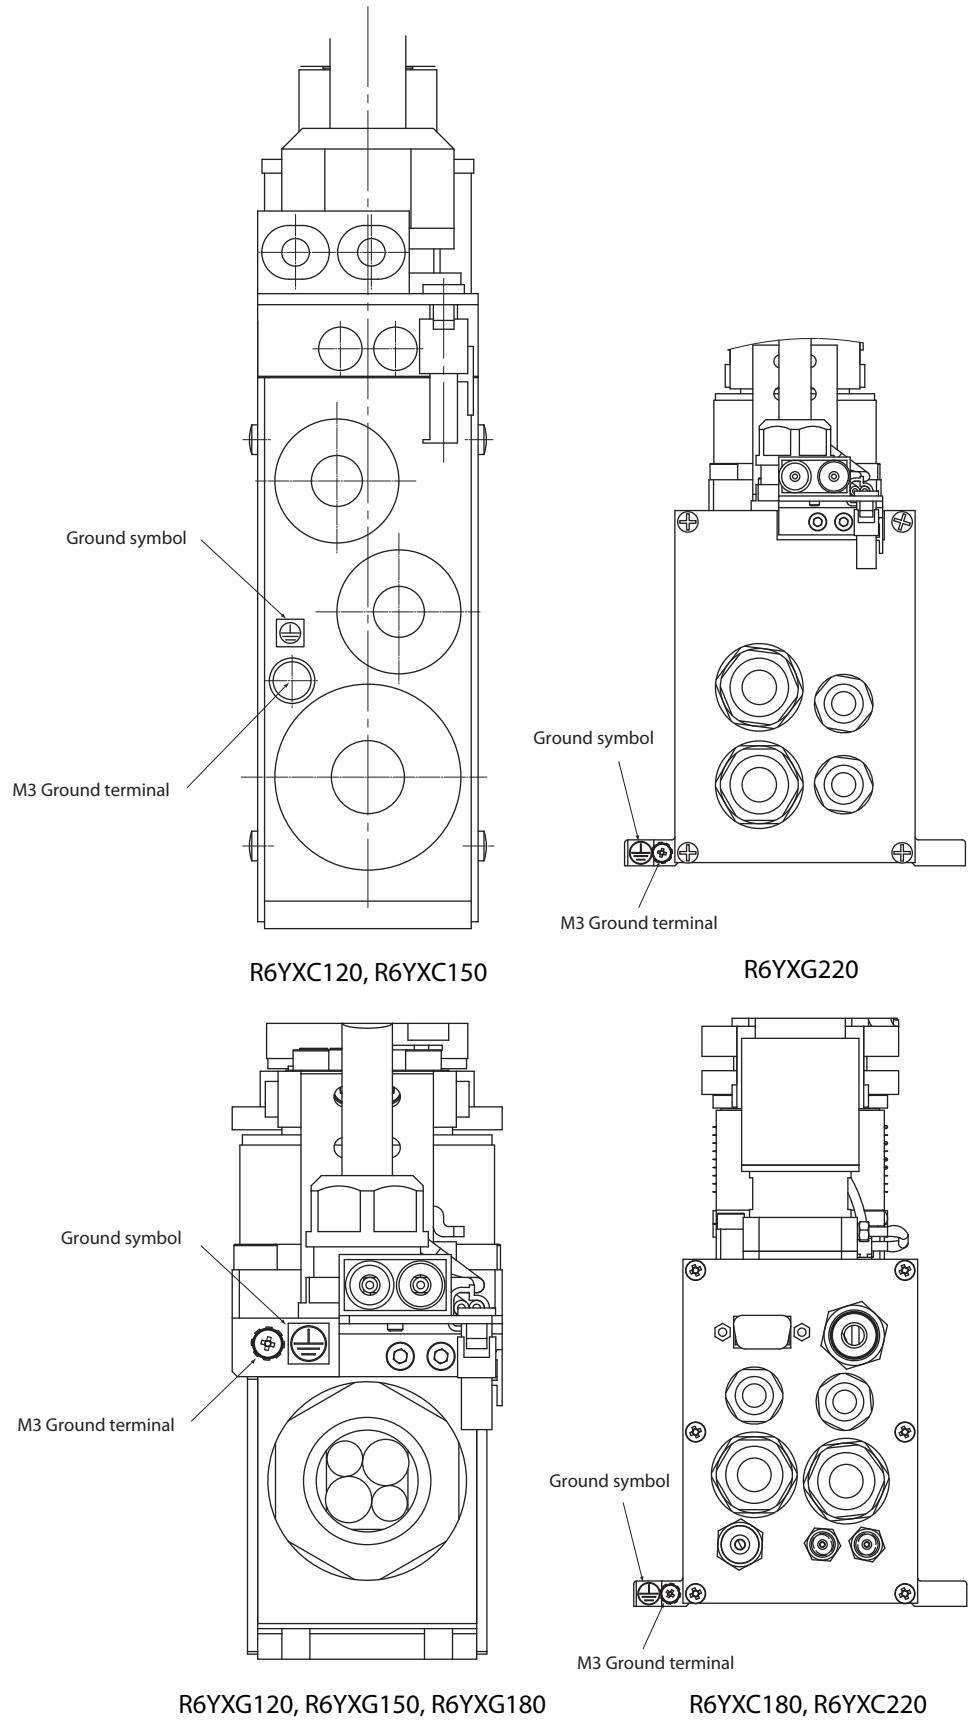

Fig. 3-7 Ground terminal
- 1) Provide a terminal marked "PE" for the protective conductor of the entire system and connect it to an external protective conductor. In addition, securely connect the ground terminal on the robot pedestal to the same protective conductor. (See Fig. 3-7.)